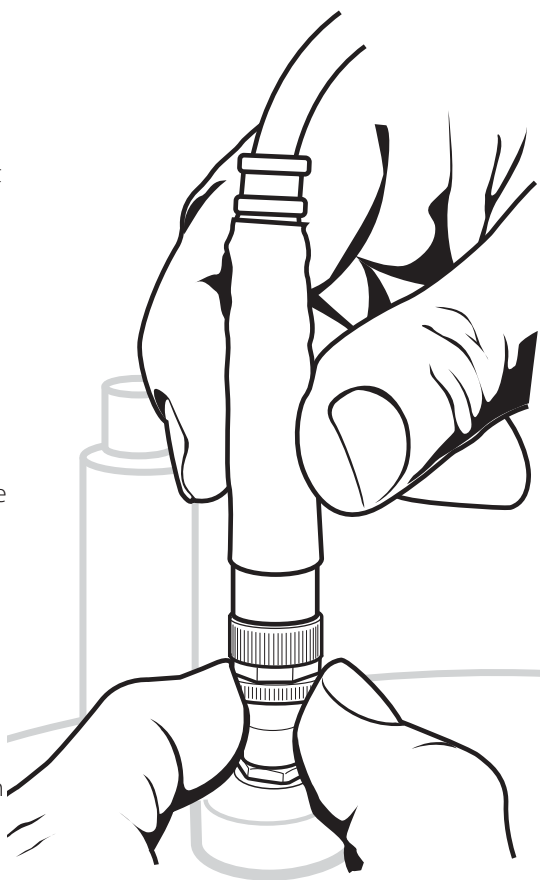

Figure 11
3. Hold the **Power Cable** upright with one hand, with other hand turn outer knurled ring clockwise to thread on the connector (figure 11).